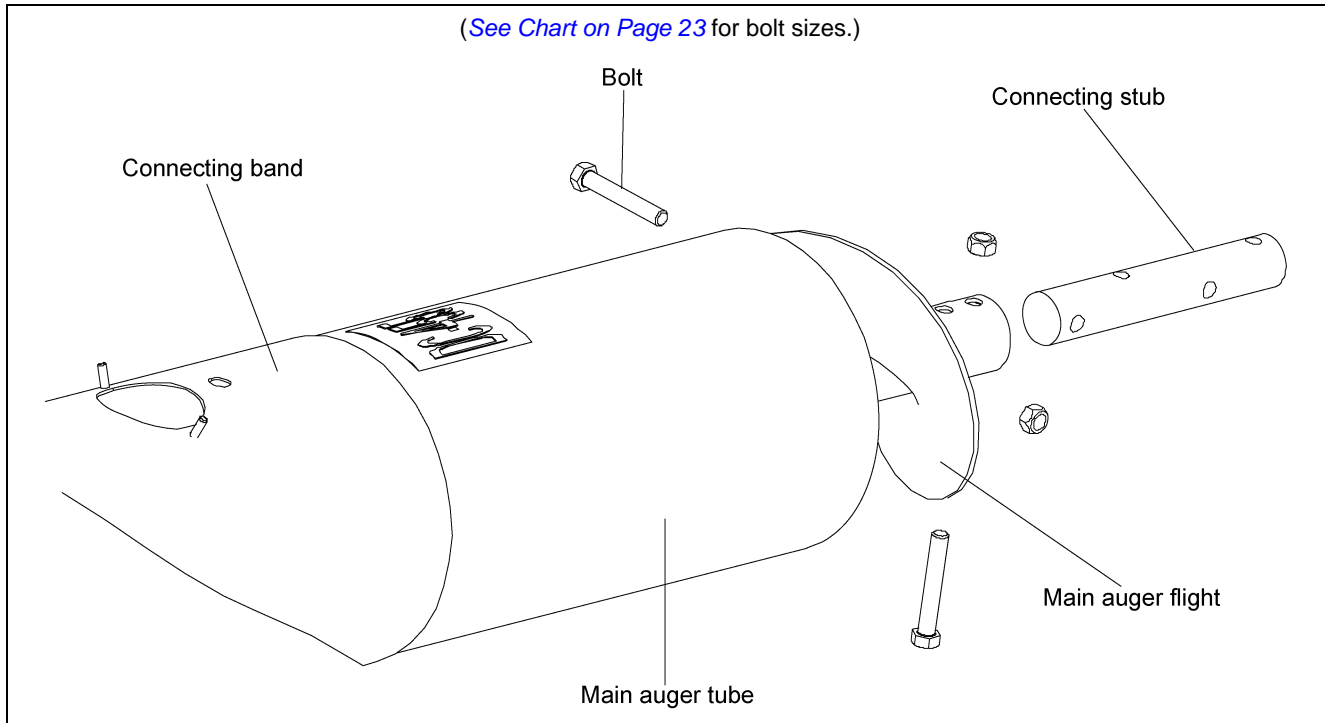

Figure 4Q
1. Slide connecting band onto main auger tube, and attach connecting stub to main auger flight using the assigned hardware. (See Chart below and Figure 4Q on Page 24.)